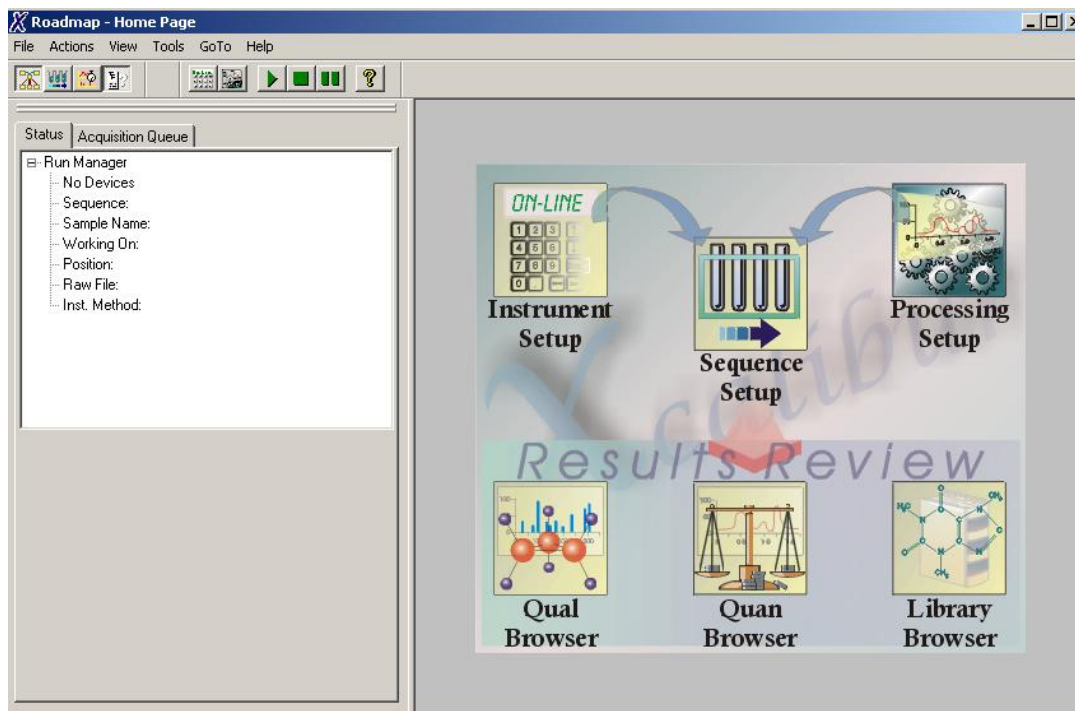

Figure 19. The Xcalibur Roadmap homepage.
8.2.4.3.1. To create an instrument method for MS detection, go to computer desktop and double-click on the Xcalibur icon. The Xcalibur Roadmap Homepage appears as shown in Figure 19.